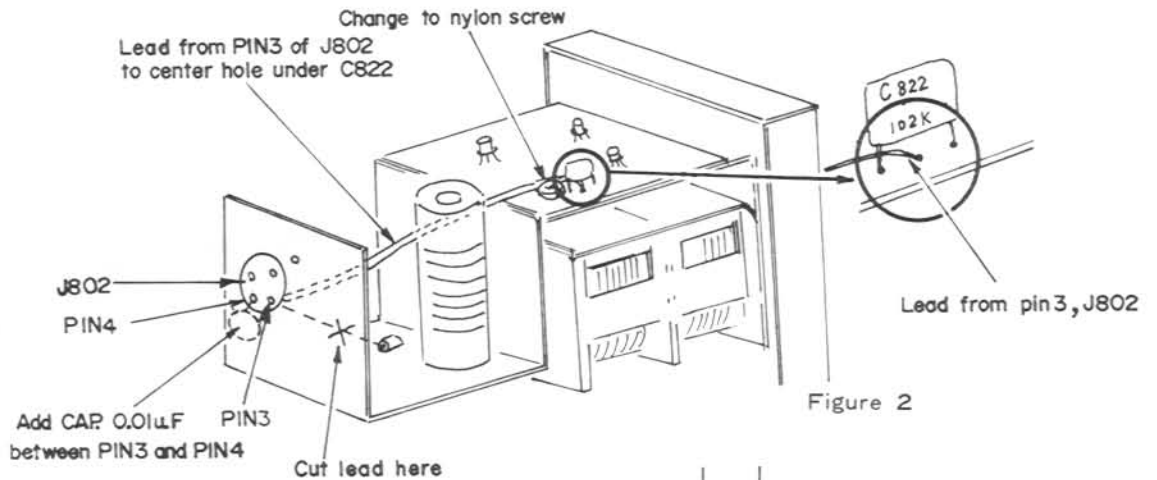
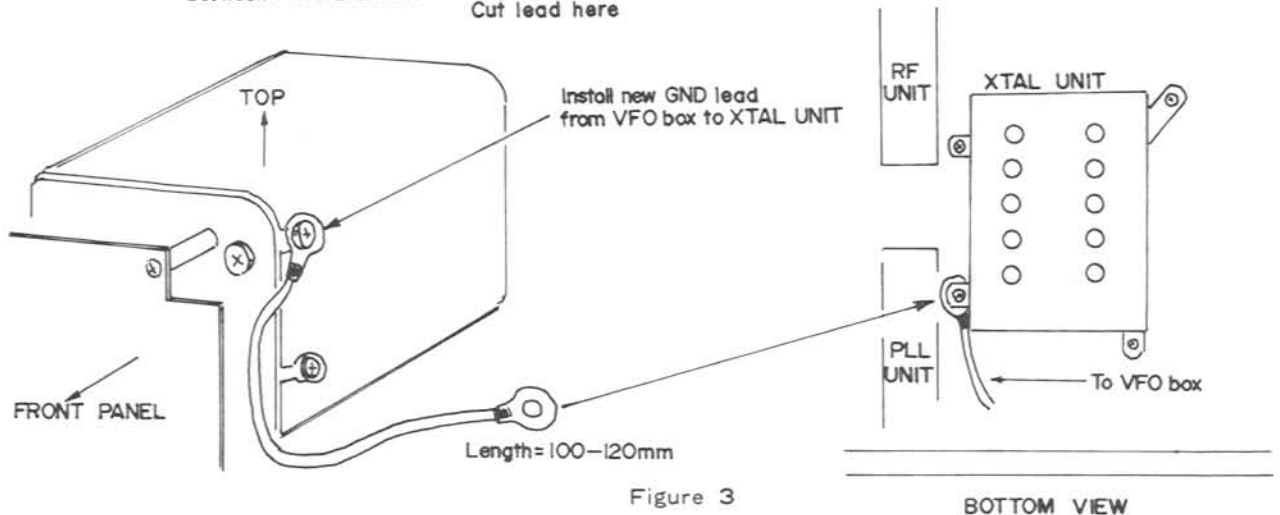

Figure 2
Figure 3
- (2) Refer to Fig. 2, and remove the ground lead from pin 4 of J₈₀₂. Re-route the lead so that the connection is from pin 4 of J₈₀₂ to the center hole under C₈₂₂.
- (3) Change the screw adjacent to C₈₂₂ to a NYLON screw.
- (4) Add a new 0.01 disc ceramic capacitor between pins 3 and 4 of J₈₀₂.
- (5) Install a new ground lead, made from a heavy braided wire of 100-120 mm length. This lead should run from the VFO compartment to the ground lug for the XTAL UNIT, as shown in Fig. 3.